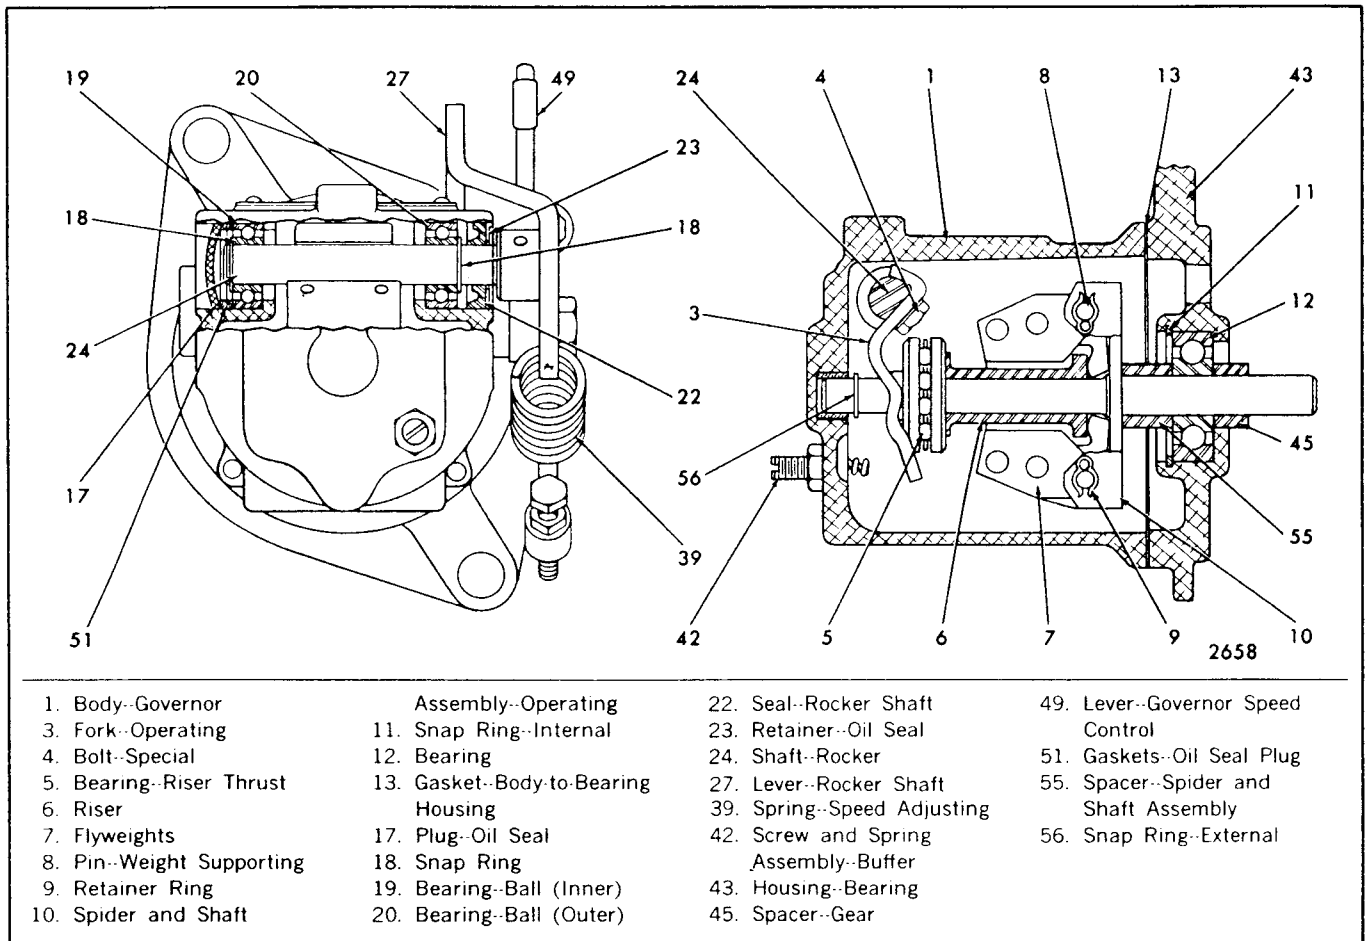

Fig. 2 - Cross-Section of Governor
- NOTE:** If a torsion-type stop lever spring (Fig. 2) is used, a special cover screw is used to hold the spring in place. If a long coil spring is used, the spring retaining bracket is held in place by one of the standard cover retaining screws.
The governor flyweights (7), shown in Fig. 2, are mounted on the spider and shaft assembly (10) and driven by the governor drive gear (46). This gear is pressed on the spider and shaft assembly and is driven by the engine gear train. A shoulder on the flyweights bears against the riser (6), that transmits the motion of the flyweights through the riser thrust bearing (5) to the operating fork (3). The operating fork is attached to the rocker shaft (24), that rides in ball bearings (19 and 20), and transmits the motion of the flyweights to the rocker shaft lever (27). The rocker shaft lever is pinned to the rocker shaft. The rocker shaft lever is connected to the speed adjusting spring (39) that is, in turn, connected to the governor speed control lever (49). The governor speed control lever is bolted to the governor and is controlled by the engine operator when establishing the desired speed of the unit. The idle (36) and maximum (37) speed adjusting screws limit the travel of the governor speed control lever and thus the minimum and maximum engine speed settings. The linkage operating the injector fuel racks is attached to the rocker shaft lever. Movement of the rocker shaft lever increases or decreases the amount of
Inspect for worn or damaged parts that can be repaired or replaced without complete disassembly. Refer to Fig. 2 and 3 and disassemble the governor as follows: